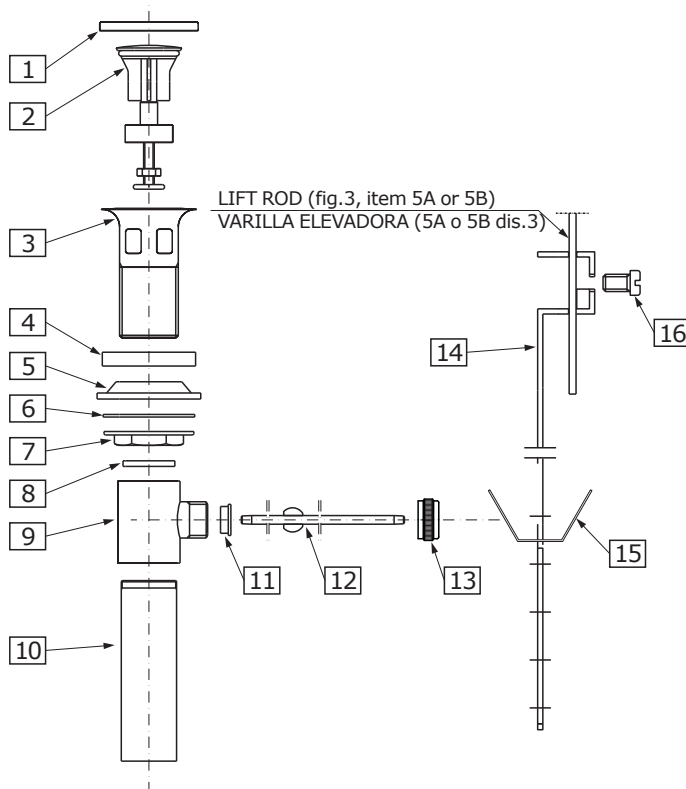

FIG. 5
See fig. 5
- ➔ Dismantle the drain assembly to the parts shown on **fig. 5**.
- ➔ Insert collar gasket (4) and drain collar (3) into drain hole of a lavatory. From underneath the lavatory slip under-bowl gasket (5) into drain collar (3), washer (6) and flanged nut (7).
- ➔ Position under-bowl gasket (5) correctly under the lavatory and screw flanged nut (7) firmly but do not overtighten.
- ➔ Make sure washer (8) is inside drain body (9) and screw drain body (9) onto drain collar (3) and tighten only.